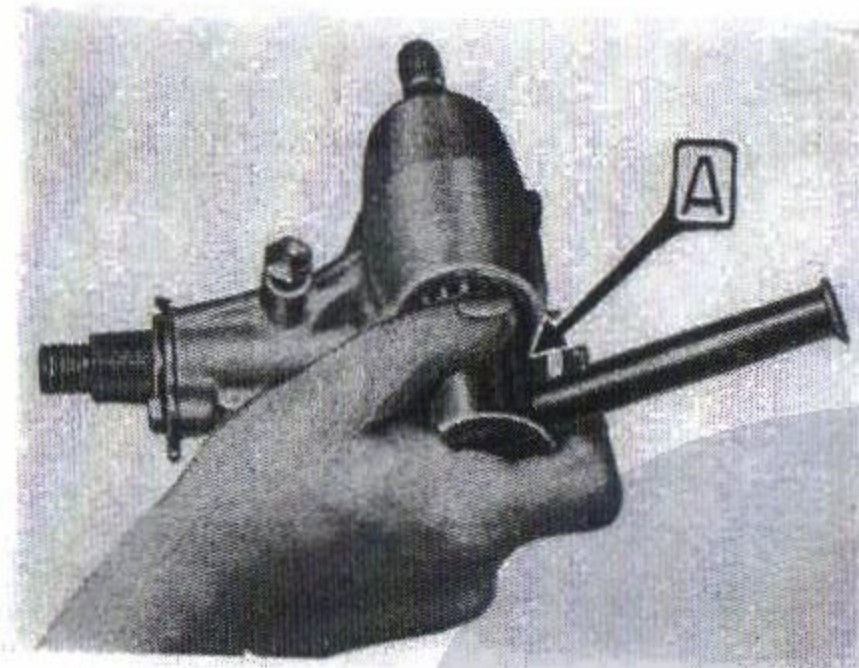

Fig. 95.
- A. 8065 (Fig. 95) Spanner for the front bearing lock ring of the steering worm.
Play in the roller bearings of the worm is taken up by means of the screwed ring situated on the end of the steering box (Fig. 95).